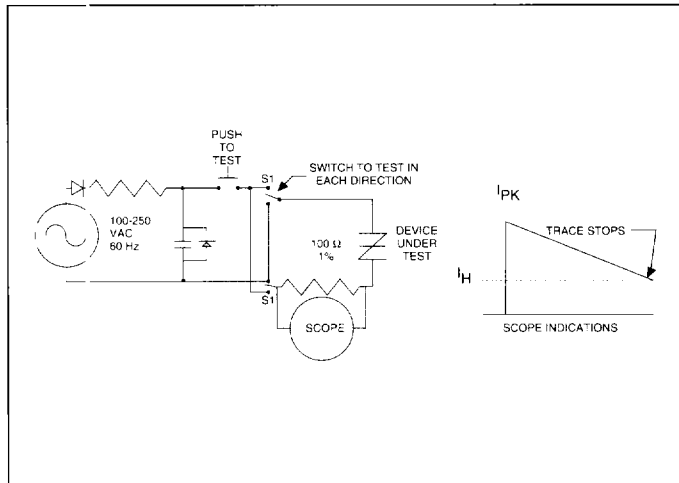

Figure 9.14 Dynamic Holding Current Test Circuit for Sidacs
- (4) See Figure 9.14 for test circuit.